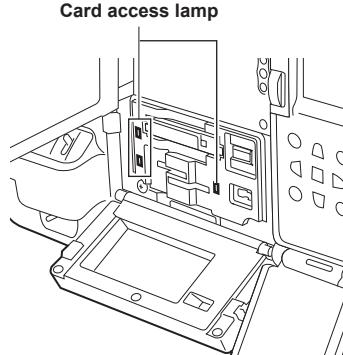

Fig. 2
**3 Insert a memory card, make sure that the card access lamp is illuminated in orange or green, and then close the slot cover. (Fig. 2)**